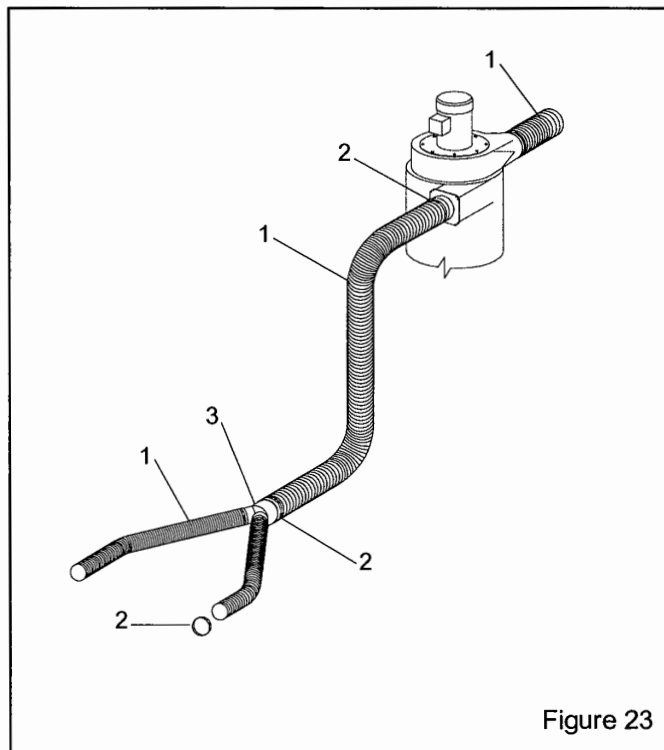

Figure 23
9.5 Flex Hose & Wye Adaptor, Figure 23